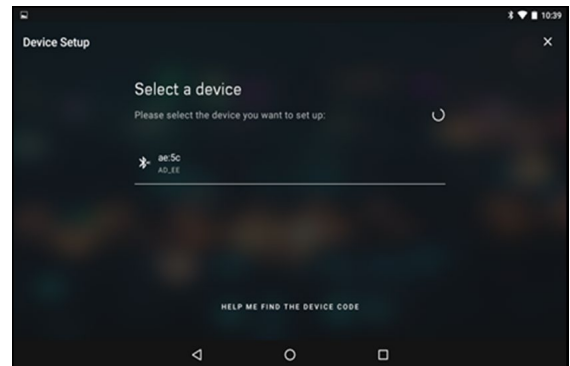

Figure 8. List of Devices Found in App
4. Select the sensor from the devices listed to begin the commissioning process (see Figure 8). If prompted, allow the tablet app to access Bluetooth to detect the sensor and display it in the list.